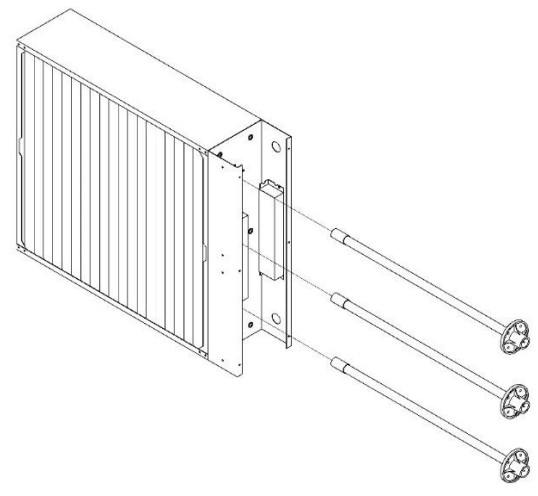

Figure 13
10.) Attach ductwork as shown in Figure 13. Insulate the exterior of DT-FP units that are installed in locations that are not climate controlled. These locations include ducts in attics, on top of roofs, and on the side of buildings.
7.) Remove lamps by alternating a quarter turn clockwise and a quarter turn counterclockwise as it is pulled out. This will prevent the lamp from becoming bound up in the catalyst media. See Figure 13.
9.) Replace lamps by alternating a quarter turn clockwise and a quarter turn counterclockwise as it is pushed in. This will prevent the lamp from becoming bound up in the catalyst media. See Figure 13.